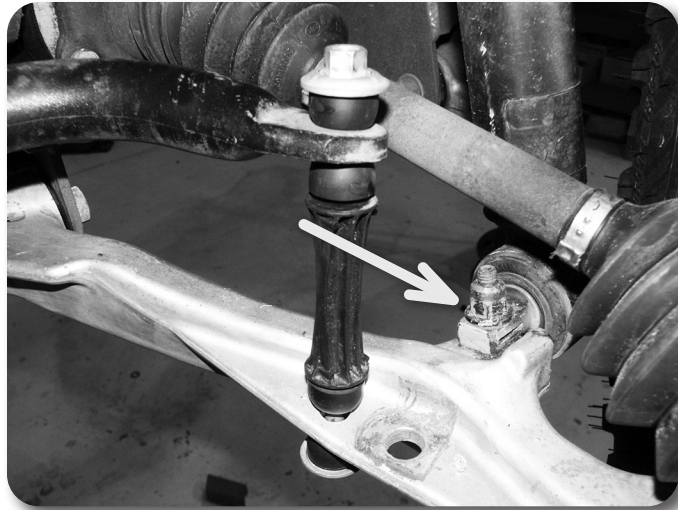

Figure 7
15. Locate the two captive nuts on the old Zone strut bar pin. Carefully remove these nuts (**Figure 7**, 2x per side) and transfer them to the new strut.